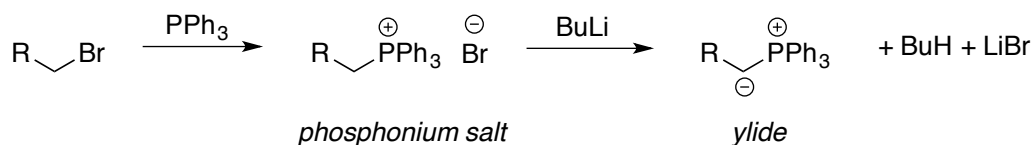

Figure 2. Preparation of an Ylide from an Organohalide
Ylides can be prepared by reacting an organohalide with triphenylphosphine to provide a phosphonium salt. The positively charged phosphorus in the phosphonium salt greatly increases the acidity of the adjacent methylene group. The phosphonium salt is then converted to the ylide by reaction with a base as shown in figure 2. Some ylides are commercially available, however, it is common practice to prepare the desired ylide in the lab just prior to use.
- 1) A general ylide preparation is described in figure 2. Show how the ylide that is used in this laboratory experiment could be prepared in the lab.